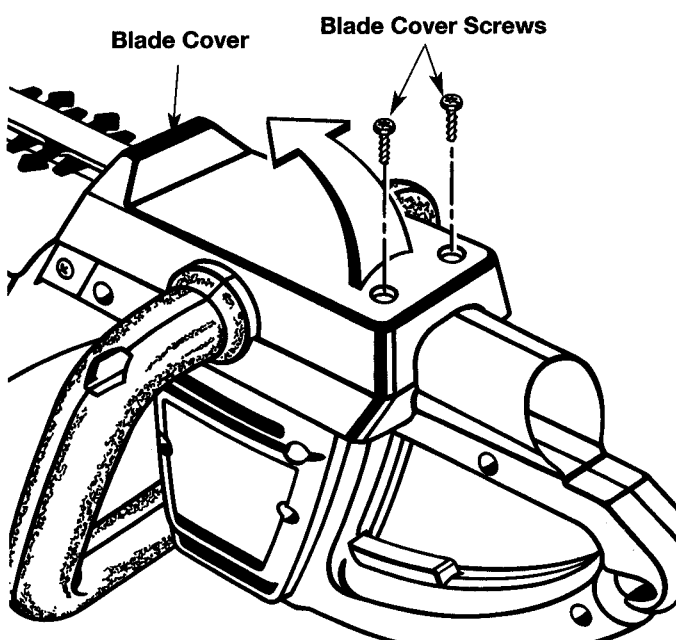

Fig. 9
1. Place hedge trimmer upside down on workbench and remove blade cover screws (Fig. 9).